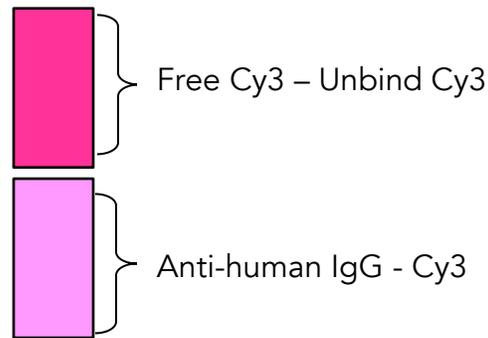

Figure 1: Distinct fraction between IgG-Cy3 and unbind Cy3.
11. Start collecting the liquid as soon as it starts to become light pink in colour (Figure 1). Collect fraction of 0.5 ml volume in each of 1.5 ml Eppendorf tube. Stop collecting fractions once the pink colour gets darker.